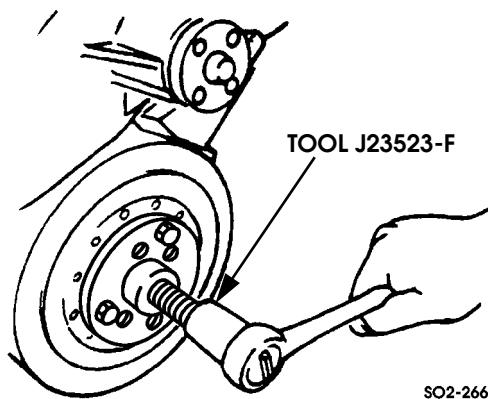

Figure 2-20: Torsional Damper Removal
3. Remove torsional damper with tool J23523-F (Figure 2-20).
14. Remove torsional damper with tool J23523-F (Figure 2-20).